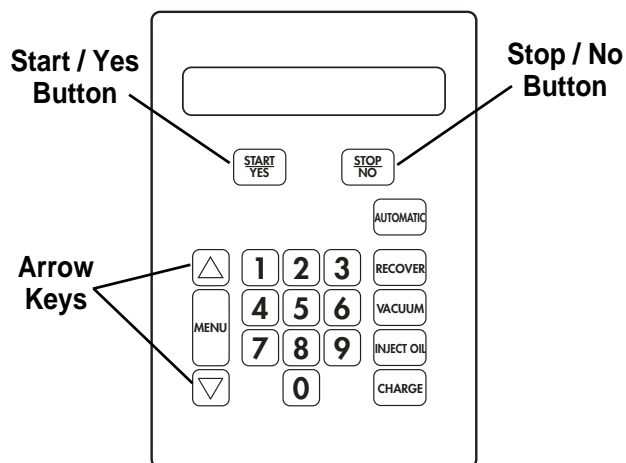

Figure 1
1. Use the **UP** or **DOWN** arrow key to toggle through the choices for English, Spanish, or French. See Figure 1.